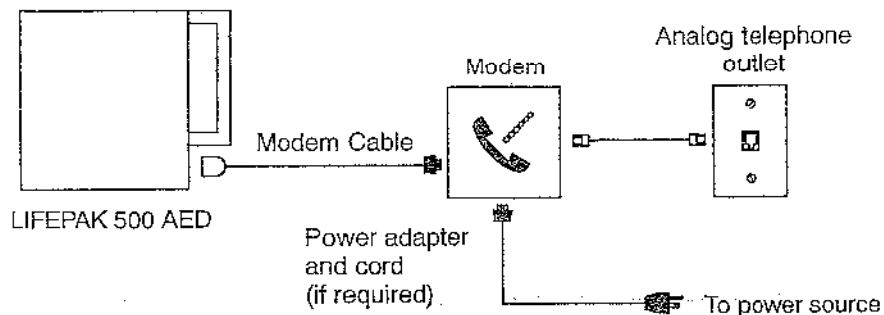

Figure 4-4 Equipment connections for data transfer by modem
- 4 At the local site, connect the equipment as shown in Figure 4-4.